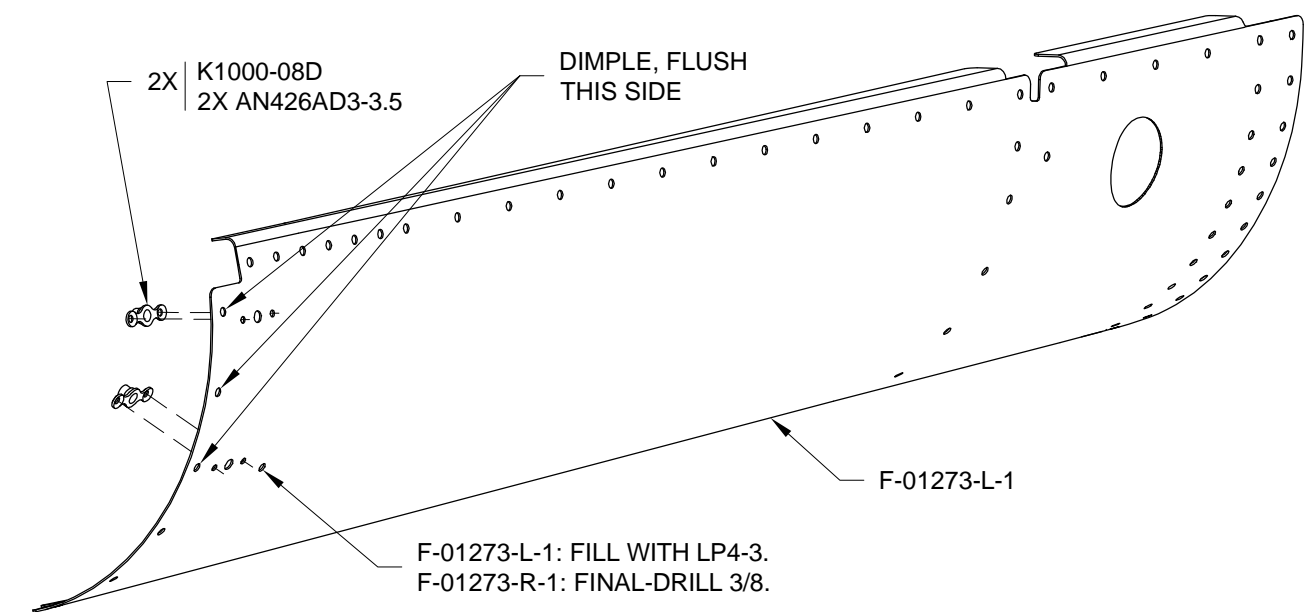

FIGURE 4: PREPARING THE BAGGAGE CORNER SKINS
Step 4: For the F-01273-L-1, fill the indicated #30 hole with the called out rivet. For the F-01273-R-1, final-drill the hole using a step drill. See Figure 4.
Step 5: Dimple the #40 nutplate attach rivet holes and the three indicated #30 holes in the F-01273-L-1 & -R-1, then attach the nutplates called out in Figure 4.